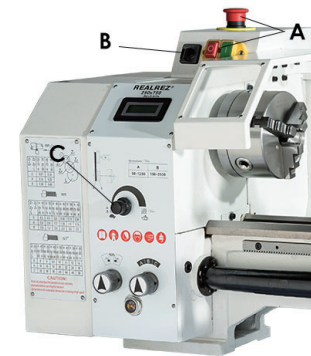

Fig. 11
1. Emergency Button ON/OFF Switch (A, Fig. 11)
2. Change-over Switch (B, Fig. 11)
3. Variable Speed Control Switch (C, Fig. 11)